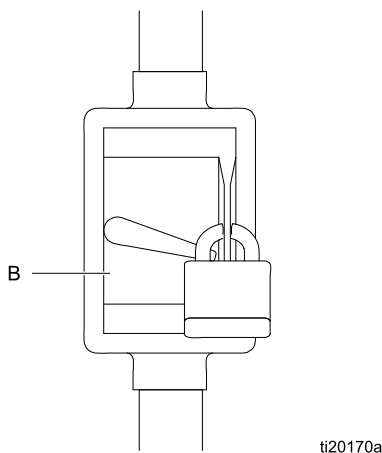

Figure 2 Locked Out Disconnect
1. Ensure that the disconnect (B, Fig 2) is shut off and locked out.